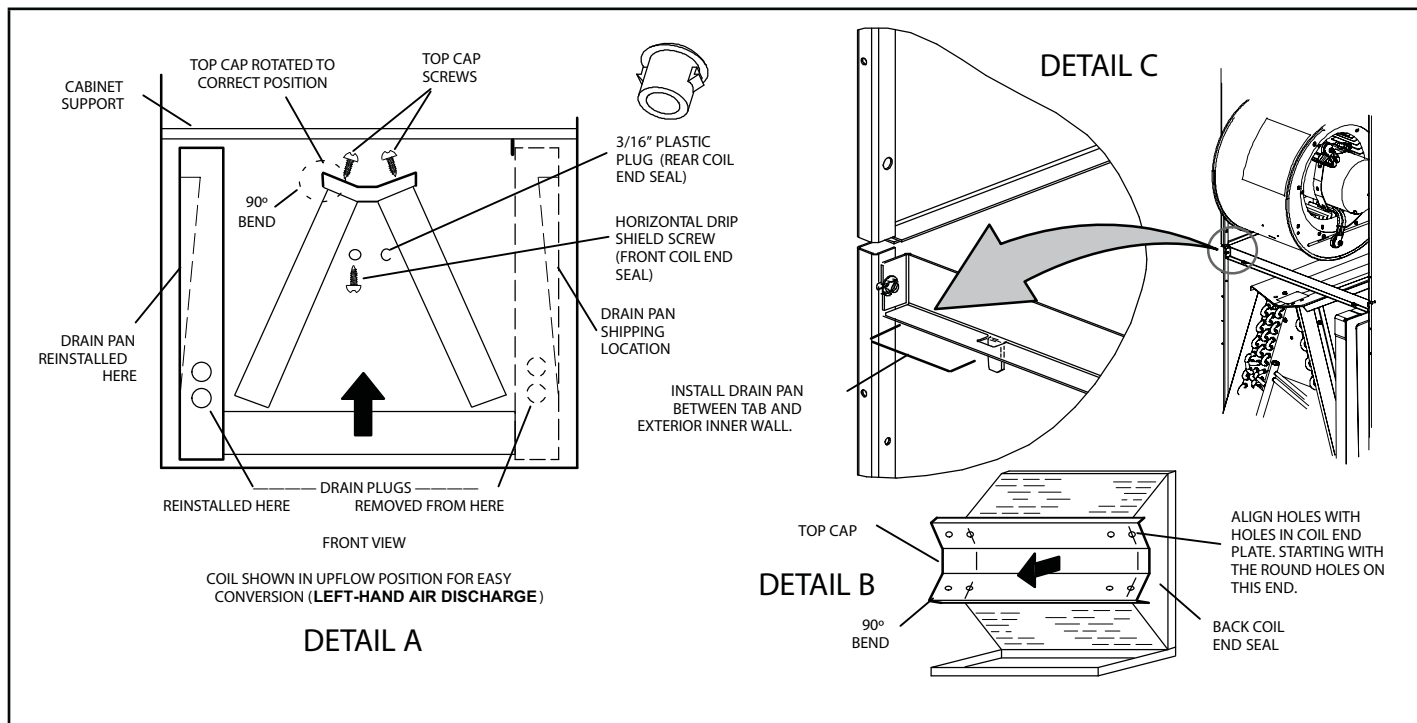

FIGURE 9. Field Modification for Left-Hand Discharge
- 4 - Remove screws from top cap. Remove horizontal drip shield screw located in the center of the back coil end seal as illustrated in figure 9.